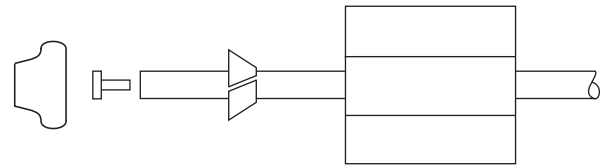

Figure 9.
NOTE: Once the tubing has been pushed into the nut it cannot be pulled out. The nut will need to be removed. See Figure 9 for correct assembly.
- Slide the plastic nut onto the tubing followed by the ferrule (see Figure 9).